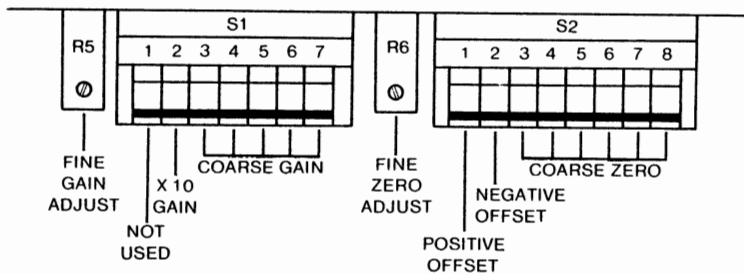

Figure 7. Gain (Span) and Zero (Offset) Controls
2. Place all 8 positions of the COARSE ZERO DIP switch (S2) in the down (off) position. (See Figure 7.)